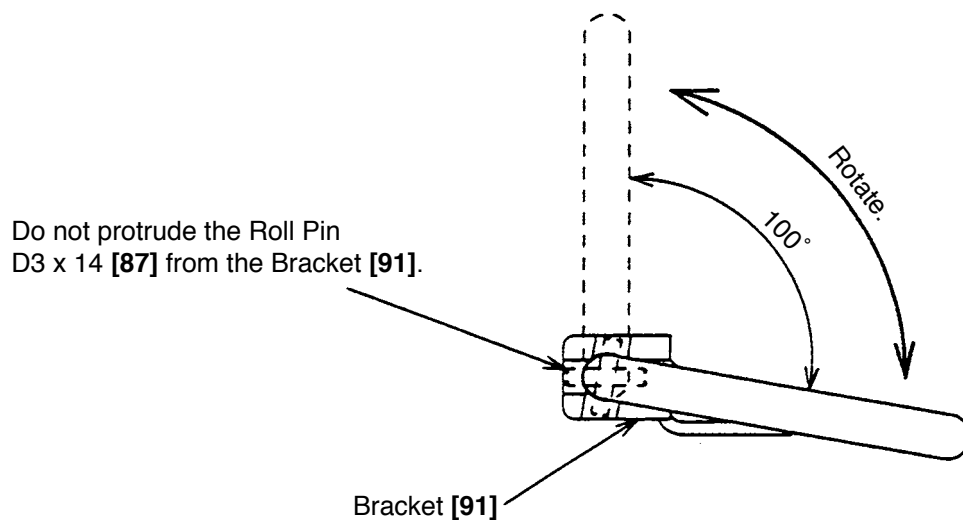

Fig. 62
- After reassembly, rotate the Hook [88] and check that the Roll Pin D3 x 14 [87] does not protrude from the Bracket [91] (Fig. 62).